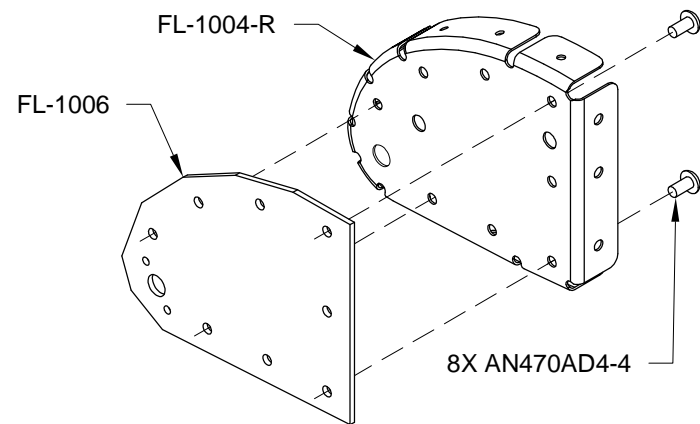

FIGURE 2: RIVET INBOARD ROD END RIB SUBASSEMBLY
Step 2: Rivet the FL-1004-R Nose Rib to the FL-1006 Doubler using the rivets called out in Figure 2.